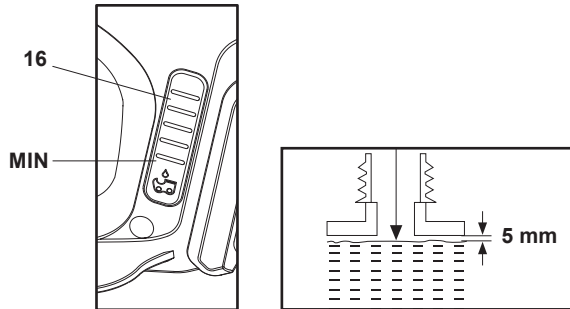

Fig. 9
4. Don't fill the oil lower than the "MIN" mark on the oil level window (16), but also do not overfill and leave approximately 5 mm of space between the top of the oil and the inside edge of the tank to allow for expansion (Fig. 9).
5. Check the oil level window (16) prior to start-up and regularly during operation. Refill oil when the oil level is close to the bottom of the oil level window (16) (Fig. 9).
6. Wipe up spilled lubricant with a soft cloth and refit the oil tank cap (2).